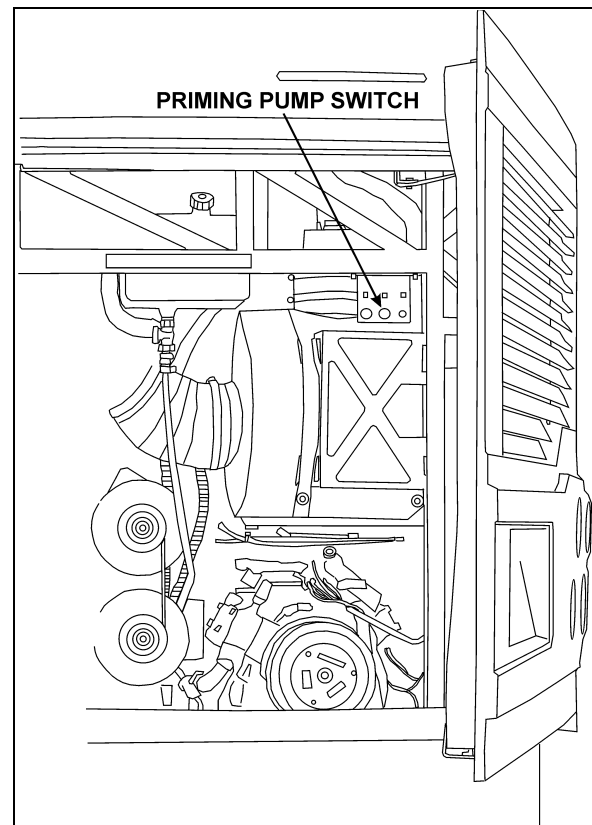

FIGURE 8: PRIMING PUMP SWITCH LOCATION
- * If the vehicle is equipped with an optional priming pump (see Figure 8).